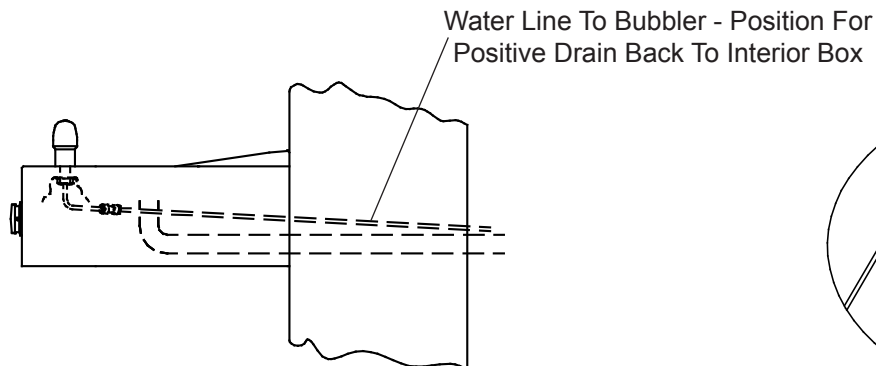

FIG. 5
4. Connect water line from fountain bubbler into freeze resistant box. The connection to the box uses a quick connect water fitting. Position the water line, in the fountain, to drain back into interior mounted box. **NOTE: TRIM WATER SUPPLY TUBING TO APPROPRIATE LENGTH, TO ALLOW FOR POSITIVE WATER FLOW.** Any water left standing, in the exterior line, can freeze. See Figure 5.